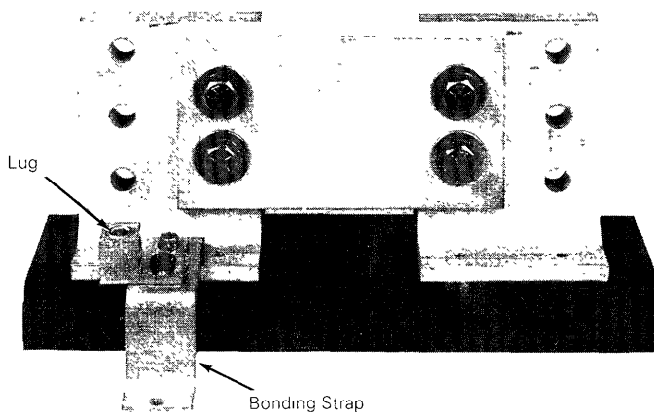

Figure 1. Bonding strap and lug attached to the neutral block.
1. Attach the lug to the bonding strap, if required, with the  $\frac{5}{16}$ -20 x 1" screw, lock washer, flat washer, and nut provided. Tighten to 90 lb-in. Attach the bonding strap to the base with one of the  $\frac{1}{4}$ -20 x  $\frac{1}{2}$ " screws provided, as shown in Figure 1, but do not tighten the screw to allow for alignment with the back panel.